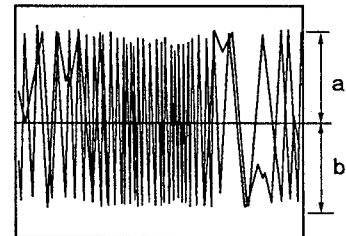

Fig. 3 Maximize the TRKG error a=b
7. Slowly turn the grating counterclockwise from the null point until the waveform amplitude becomes maximum. (Fig. 3)
2. Adjust VR602 so that the positive and negative amplitude of the TRKG error waveform become equal. (Fig. 3)